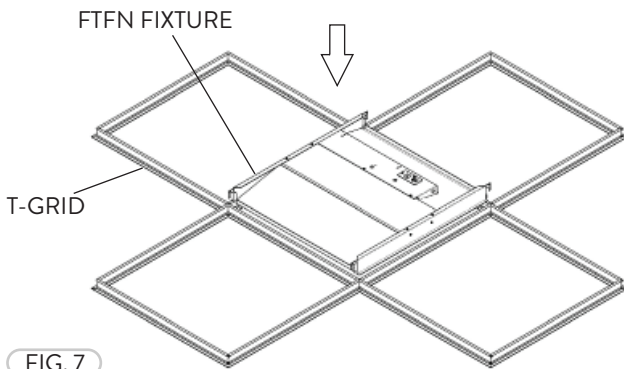

FIG. 7
- 3 Now with the four tabs set into position the FTFN fixture is ready to lay onto the T-Grid (Fig. 7).